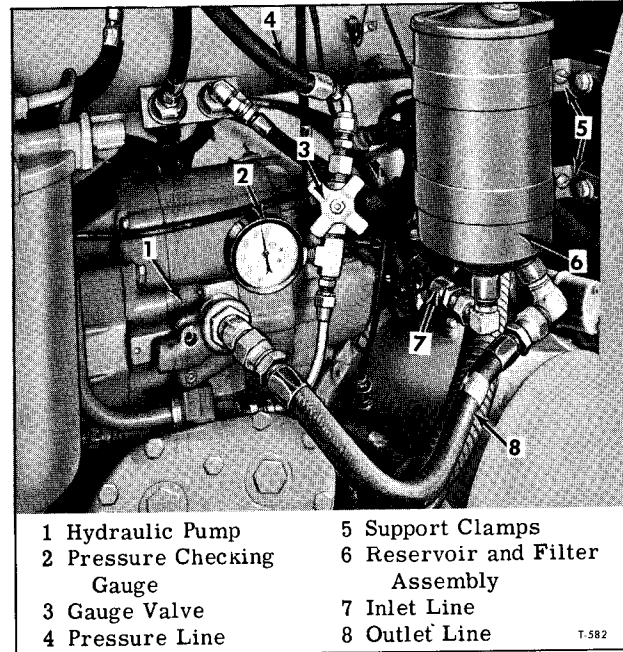

Figure 3—Checking Pump Hydraulic Pressure (Typical)
2. Connect pressure checking gauge (J-5631-01) (fig. 3) between the pump pressure port and pressure hose. Leave valve in pressure gauge open.